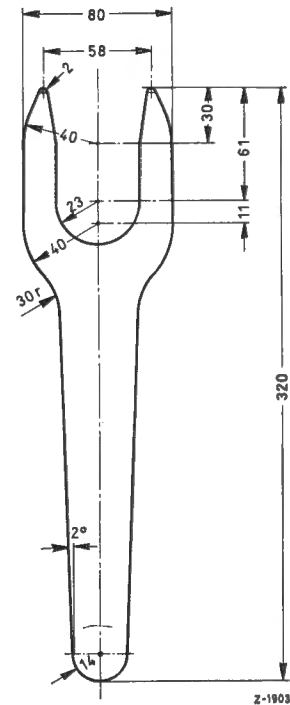

Fig. 41-1/4
9. Attach the shaft plate (11) to the transmission three-way flange with the three short fitted screws (see Job No. 41-0), remembering the washers (10a) between the screw head and the shaft plate (11) (Fig. 41-1/9). Tighten the castle nuts or self-locking nuts and cotter the castle nuts (for tightening torque see Job No. 41-0).